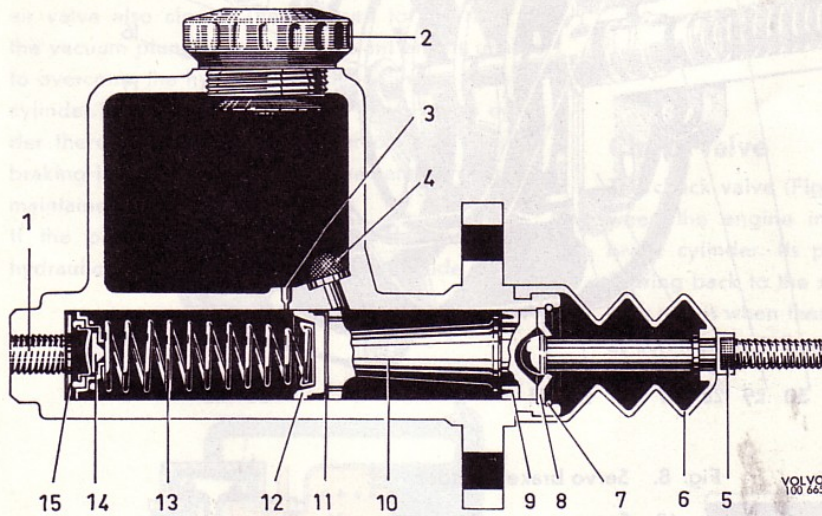

Fig. 7. Master cylinder.
The construction of the master cylinder is shown in Fig. 7. The cavity in front of the plunger is in connection with the brake lines through channels in the washer (15) even when the valve (14) is closed. This means that there is no residual hydraulic pressure in this system when the brakes are in the rest position.